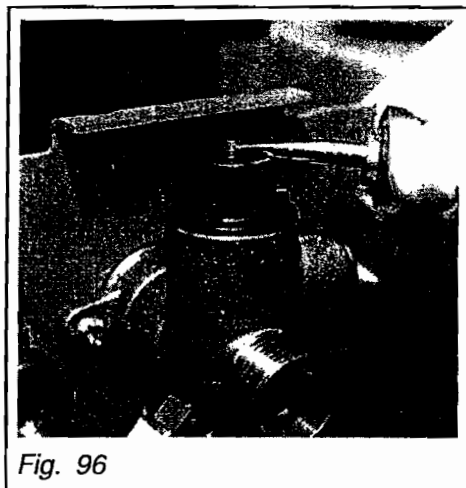

Fig. 96
- Lift spindle on top of pressure relief valve using a screw-driver to reduce pressure in boiler. Fig. 96.
- Open the drain valve by turning the drain valve knob anti-clockwise to drain the boiler. Refer to Fig. 96.